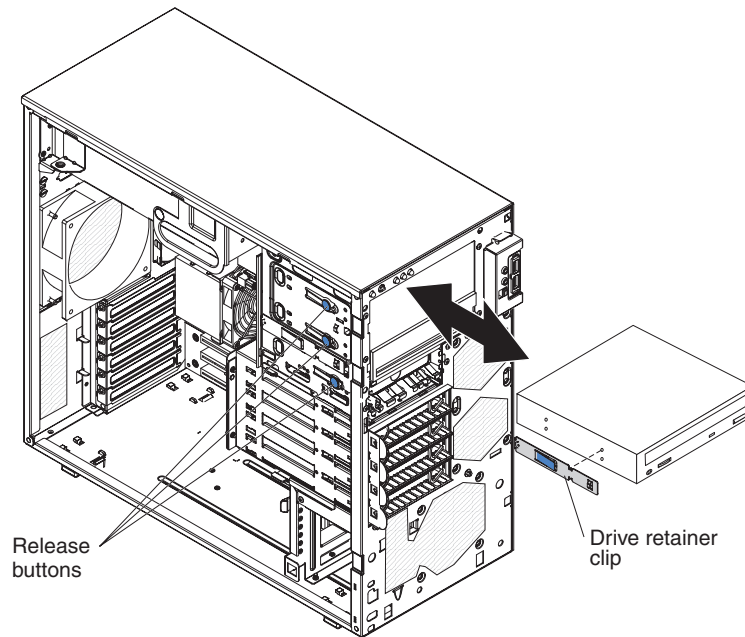

Figure 28. Installing a drive in bay 1, 2, or 3
5. Push the drive into the front of the bay until it clicks into place (see Figure 28).